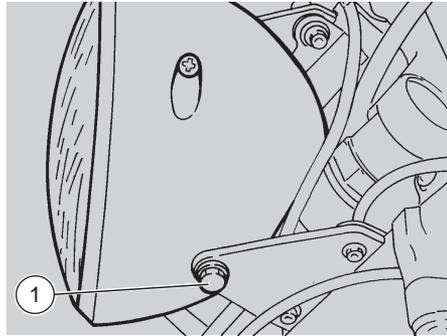

Fig. 56
CHANGING THE HEADLIGHT BULBS (Fig. 56 ÷ 58)
- ◆ Unscrew and extract the screw (1-Fig. 56).